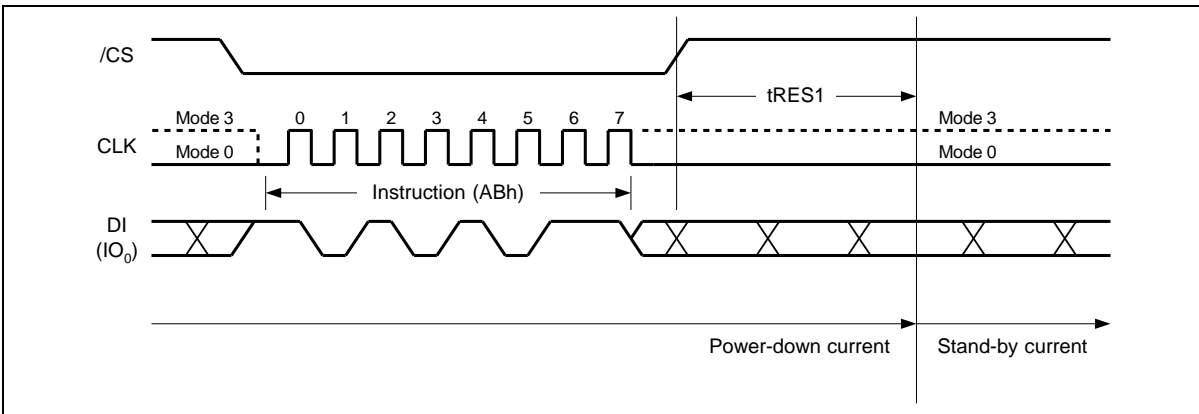

Figure 45a. Release Power-down Instruction (SPI Mode)
The Release from Power-down / Device ID instruction is a multi-purpose instruction. It can be used to release the device from the power-down state, or obtain the devices electronic identification (ID) number. To release the device from the power-down state, the instruction is issued by driving the /CS pin low, shifting the instruction code “ABh” and driving /CS high as shown in Figure 45a & 45b. Release from power-down will take the time duration of tRES1 (See AC Characteristics) before the device will resume normal operation and other instructions are accepted. The /CS pin must remain high during the tRES1 time duration.